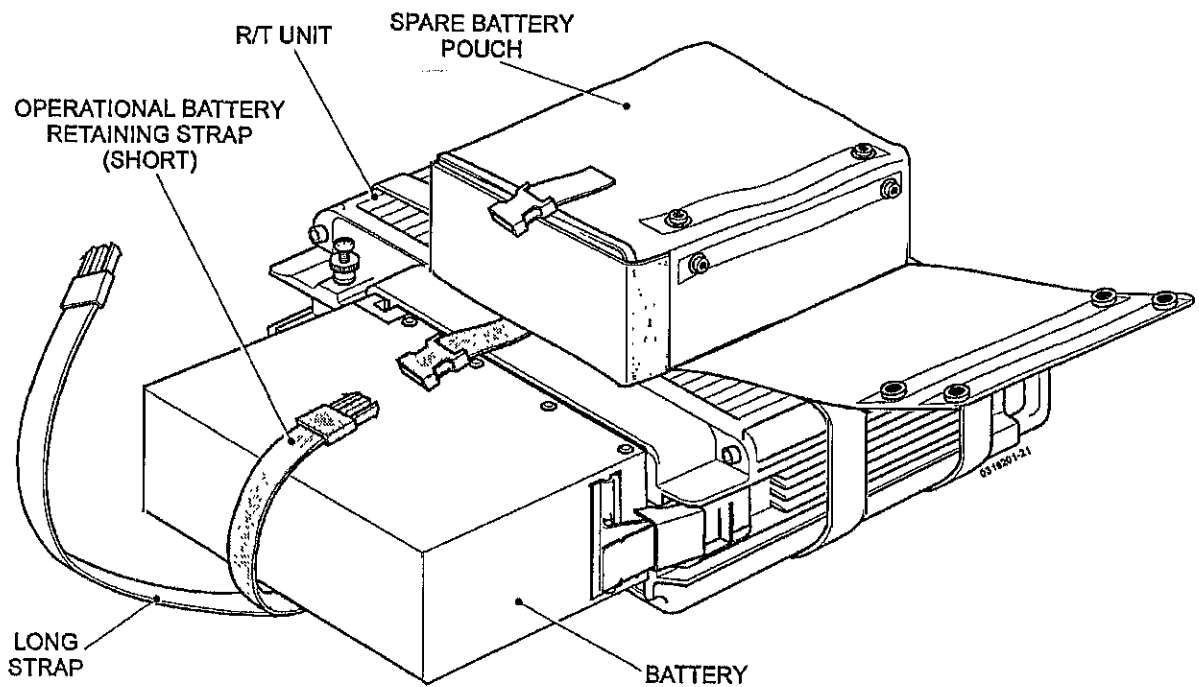

Fig 6 Manpack station - securing the operational battery
13.6 Clip the operational battery retaining strap (Fig 6) to the spare battery pouch and tighten the strap.